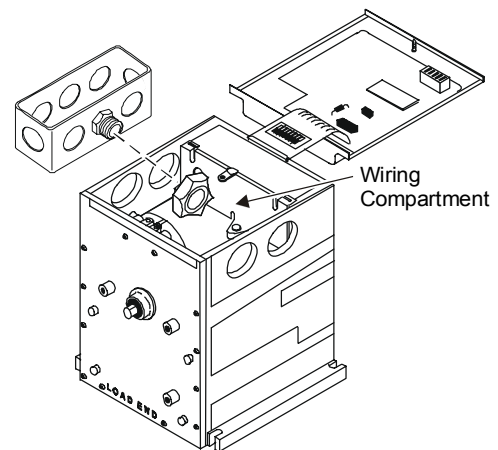

Figure 6: Wiring Compartment
- Locate all splicing and excess wiring outside the actuator wiring compartment. If desired, add a standard electrical box to the actuator's wiring compartment. (See Figure 6.)